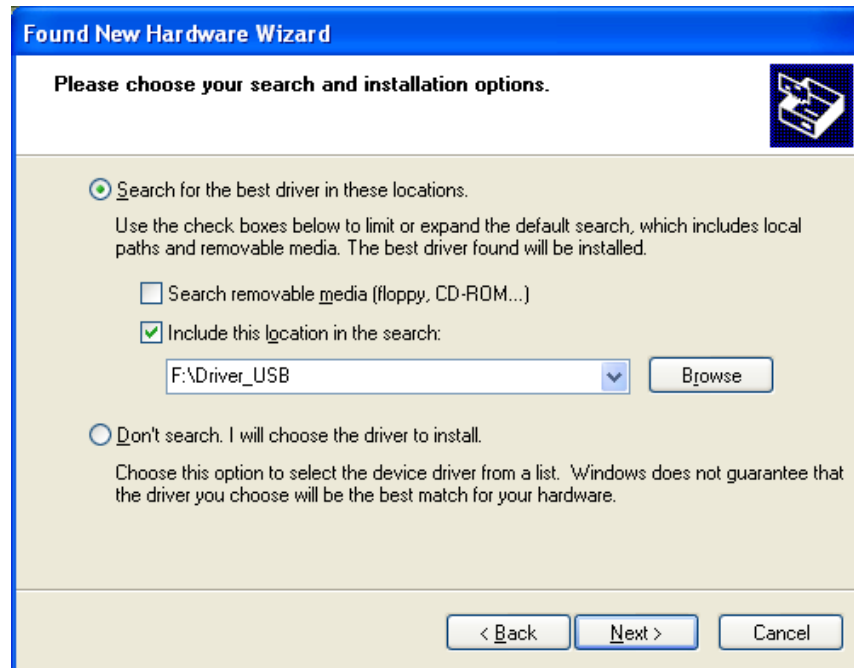

Figure 7. New Hardware Wizard, Step 3
- When the window shown in Figure 7 is displayed, click Browse, select the location of the downloaded driver file on the PC, and then click Next.